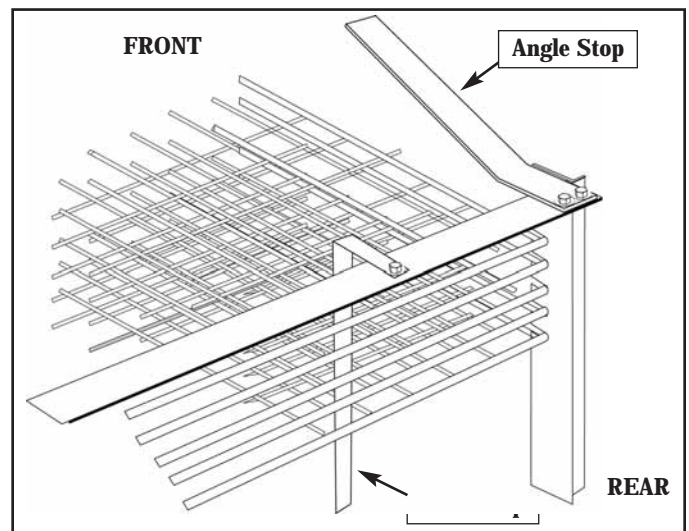

Figure 9. Installing the Angle & Back Stops.
- Place one angle stop bar on each side of the rack unit. The mounting holes for the angle stop bars are slotted to allow front-to-rear position adjustment (Figure 9).
- Slide down in front of the shelf mounting axes as shown (Figure 9).